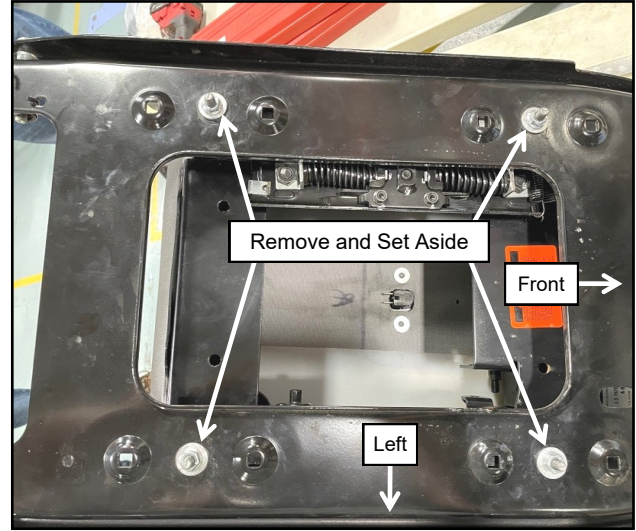

Fig. 1.24 (Remove Seat Frame)
**1.24** Remove and set aside the (4) nuts and washers holding the seat frame to the seat adjuster rails. Next, remove frame from the seat. See Figure 1.24.
**1.26** Place supplied seat pan assembly onto seat. Next, re-install seat frame onto the seat pan. Loosely install OEM washers and nuts back on. Fully tighten left side hardware first followed by the right side. See Figures 1.24 and 1.26.